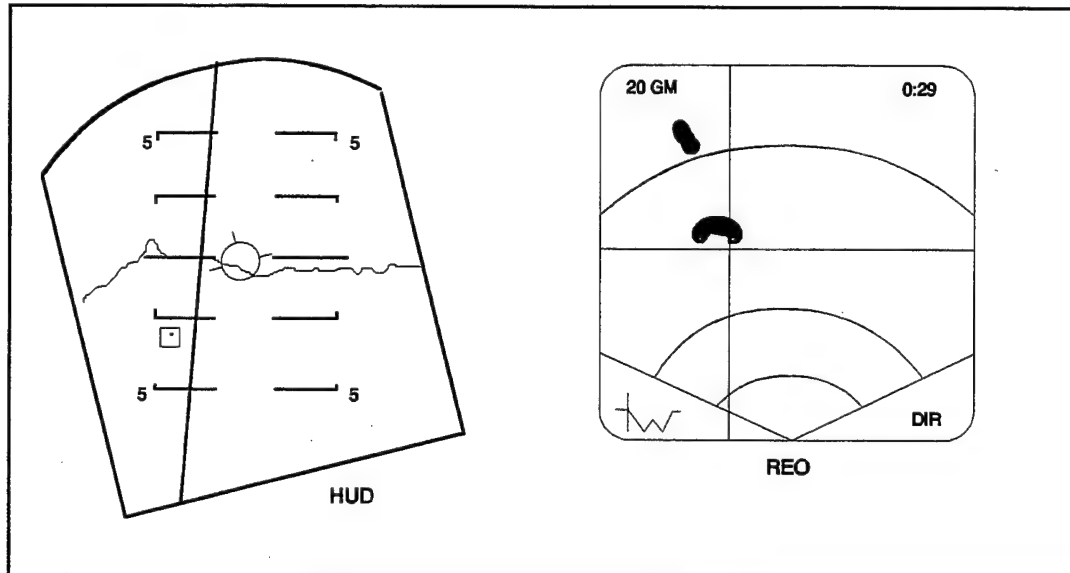

FIGURE 3.13 CCRP Symbology
a. Introduction. You normally use CCRP for making level attacks but you can use it for toss attacks as well. You'll get HUD and REO steering to the selected steerpoint (See Figure 3.13). If you've typed in offset data, you can also use the offsets to help find the steerpoint. In addition to HUD steering and time-to-release you'll see a 100 mil circle two seconds prior to the maximum range toss cue when you get close enough to the steerpoint that a 5g pull-up to 45° of pitch will get the ordnance on target.